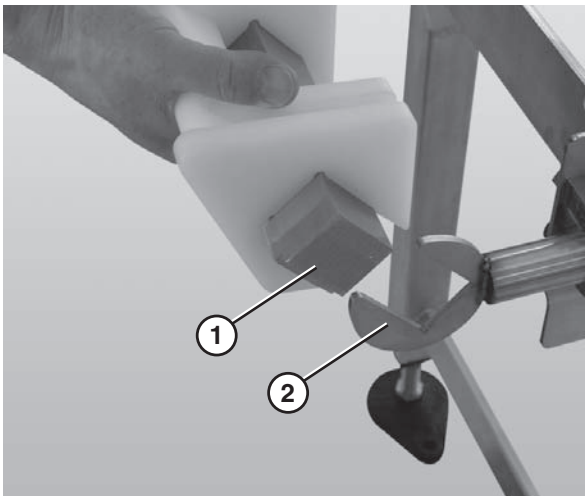

Figure 25
- Attach the nose bar transfer post (**Figure 25, item 1**) to the nose bar idler shaft hands (**Figure 25, item 2**).